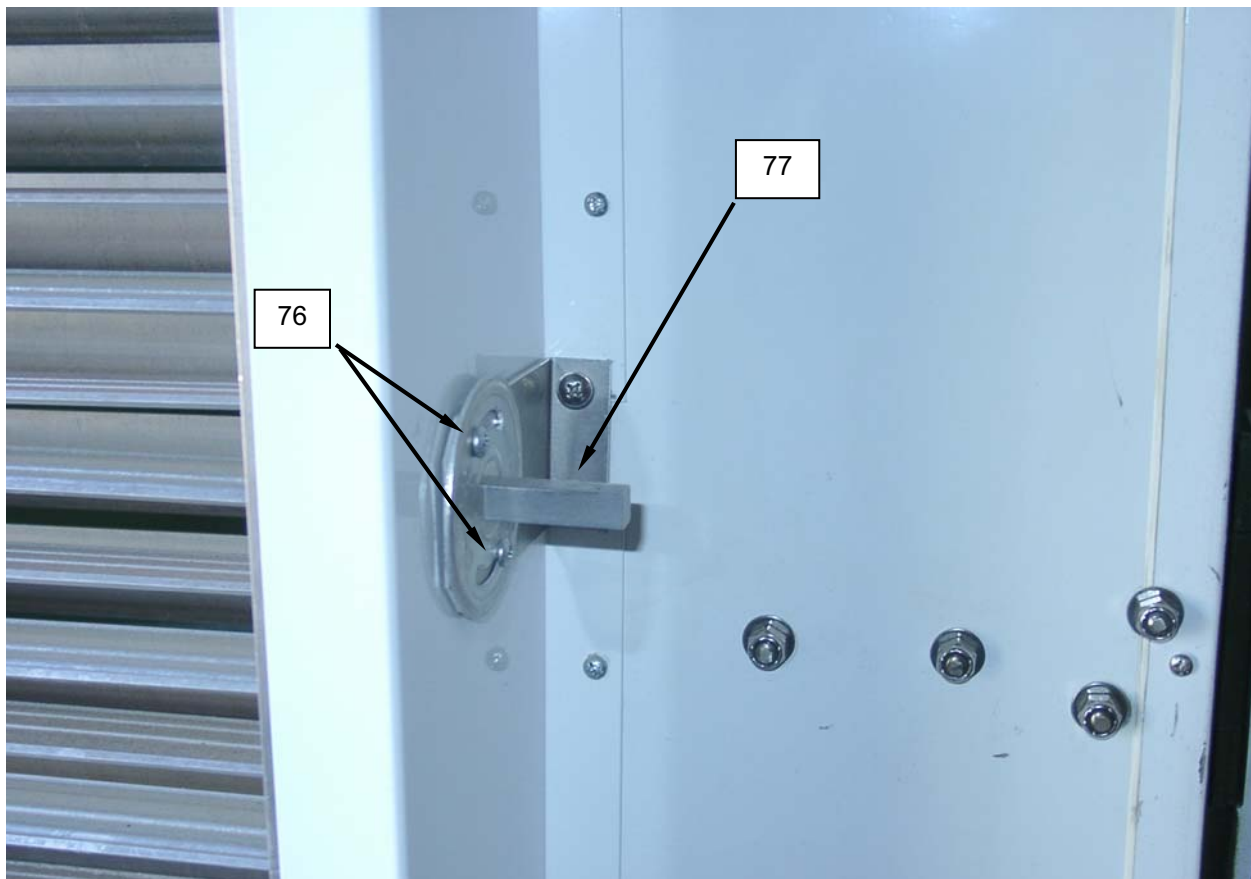

Figure 31. Operate the Door Vents.
2. Loosen the two screws (**Figure 31, Item 76**) securing the control shaft (**Figure 31, Item 77**) in place.
3. The vent louvers may be closed or adjusted open to any position by turning the vent louver control shaft (**Figure 31, Item 76**) with an adjustable wrench.
4. When the vent louvers have been adjusted as desired, secure the control shaft (**Figure 31, Item 77**) in position by tightening the two screws (**Figure 31, Item 76**).